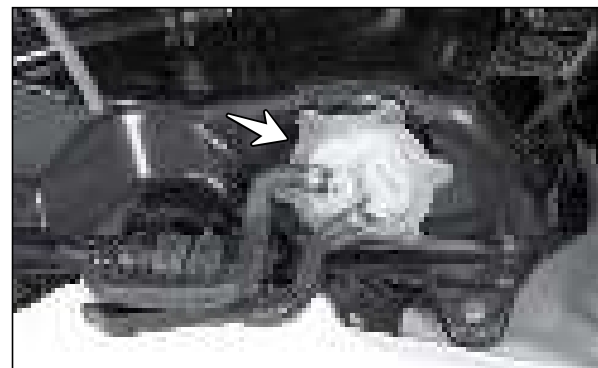

Fig. 4.9
- A fuel pump module is mounted at the bottom side of the fuel tank. (Fig. 4.9)